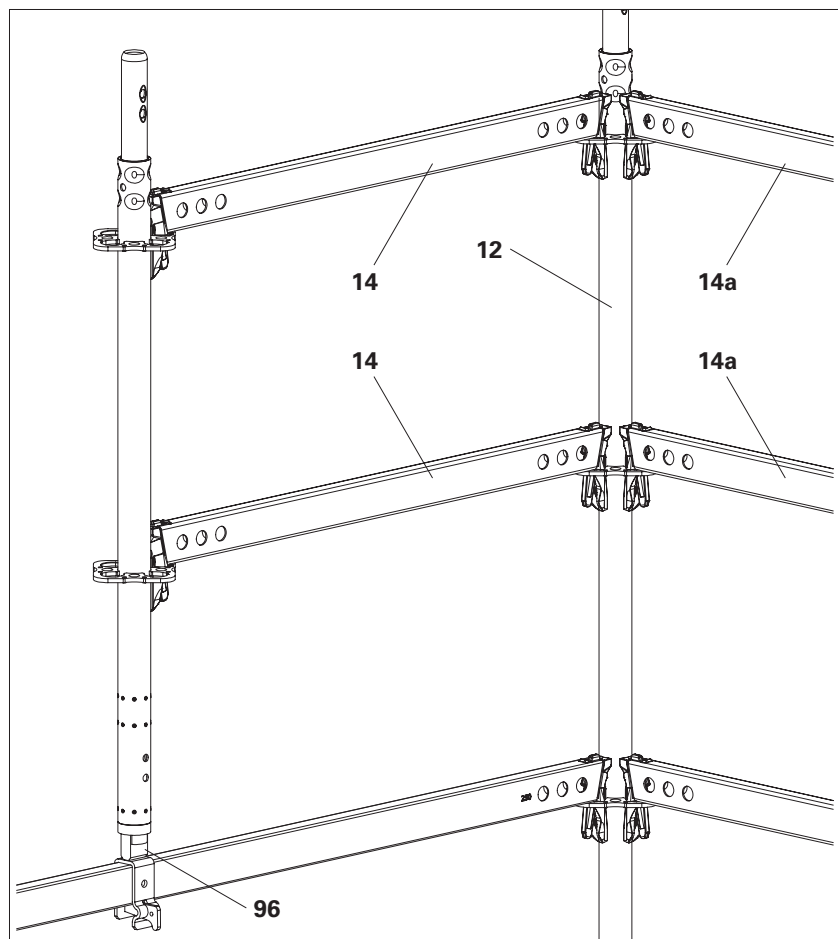

Fig. A11.09
- Its use as a support for a free-standing guardrail post is only possible if the free guardrail post is connected to a torsionally stiff standard (12) with 2 horizontal ledgers ≤ 2.25 m (14). The standard (12) must be held by further horizontal ledgers (14a) extending at an angle of 90° . (Fig. A11.09)